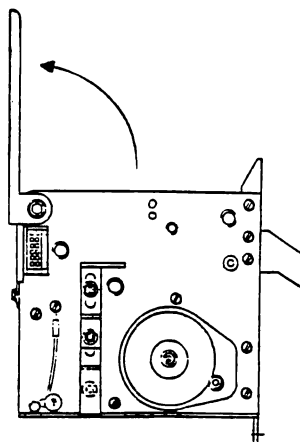

FIGURE 2
3. Open the acceptor cover as shown in Figure 2. With the acceptor motor still running, as above, apply isopropyl alcohol to the idler belts (outer side). See Figure 3, #1.